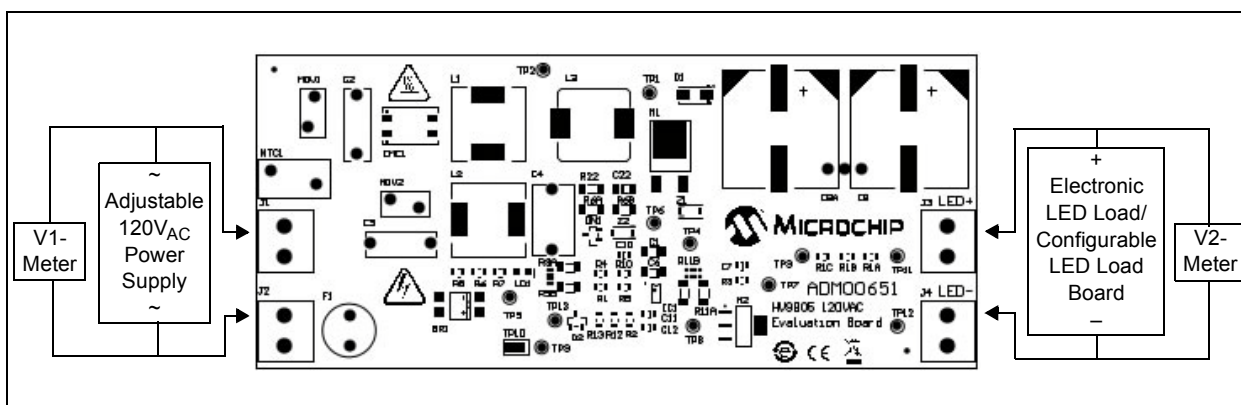
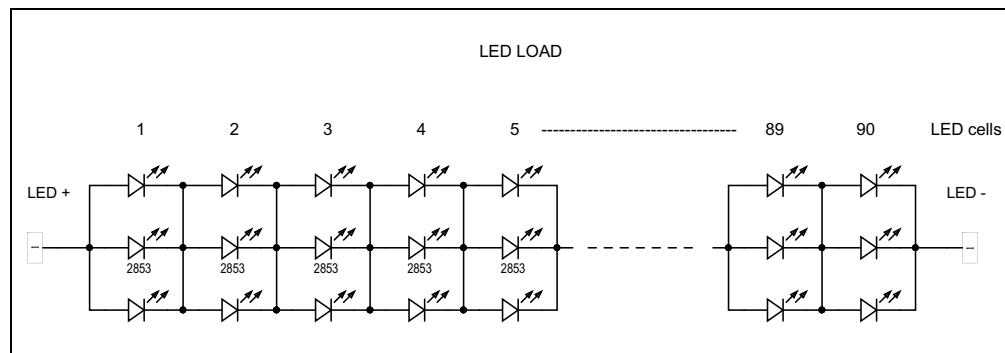

FIGURE 2-1: Connection Diagram.
FIGURE 2-2: LED Load String Example.
- The input connectors, J1 and J2, are placed on the left side of the board and marked 120V_{AC} ~, as shown in Figure 2-1.
2. Connect a voltmeter and the LED string at J3 (LED+) and J4 (LED-) connectors, as shown in Figure 2-1. The LED string can be formed with 70 to 90 LED cells (3 LEDs in parallel), 80 mA SMD LED, 280 mW. An example is shown in Figure 2-2.